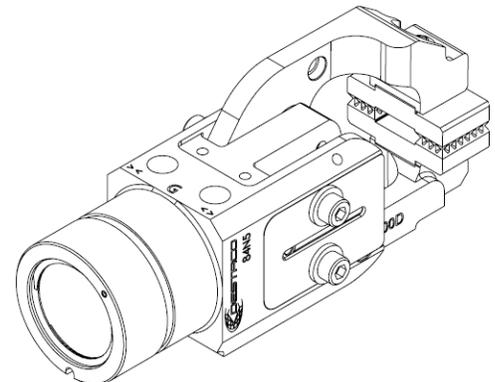

Fig.49
23. Insert the spiral-retaining ring at the back-groove of the gripper body to secure the plug bore (see Fig.49).